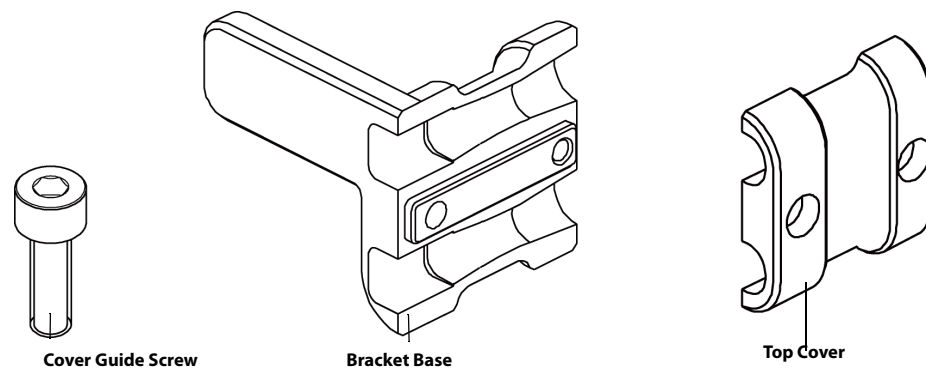

FIGURE 13-4 Camino Connection Cable Components
1. Locate the Camino connection cable components (as shown in FIGURE 13-4).